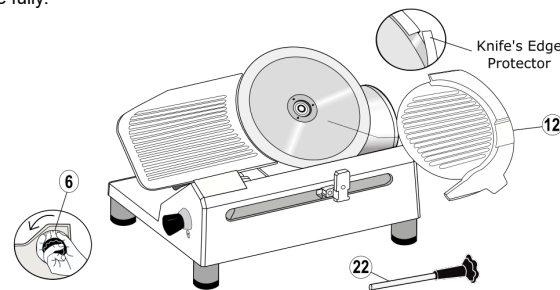

FIG 1. HOW TO REMOVE THE KNIFE'S EDGE PROTECTOR
- 1 Sharpener box (13)
C.- Take out the carriage assembly. Do the same with the base unit Assy by lifting from the base (10), (exercise proper lifting method, preferably do this procedure with two persons).
E.- Remove the knife edge protector by following the next instructions (See Fig. 1):
• Rotate the slice adjusting knob (6) counter clockwise until it stops.
• Remove the knife guard plate (12) by loosening the knife guard knob (22).
• Once the knife edge protector is removed, Assemble again the knife guard plate (12) and assure it with the knife guard knob (22). Close the thickness gauge plate (5) by rotating the slice adjusting knob (6) clockwise fully.